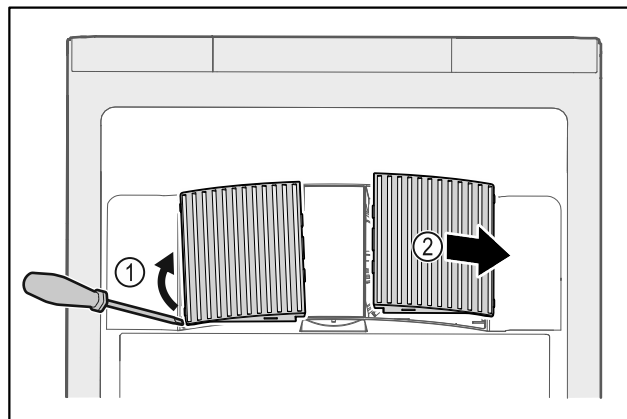

Fig. 177
- ▶ Carefully lever out fan covers from the side Fig. 177 (1) and remove towards the front Fig. 177 (2).